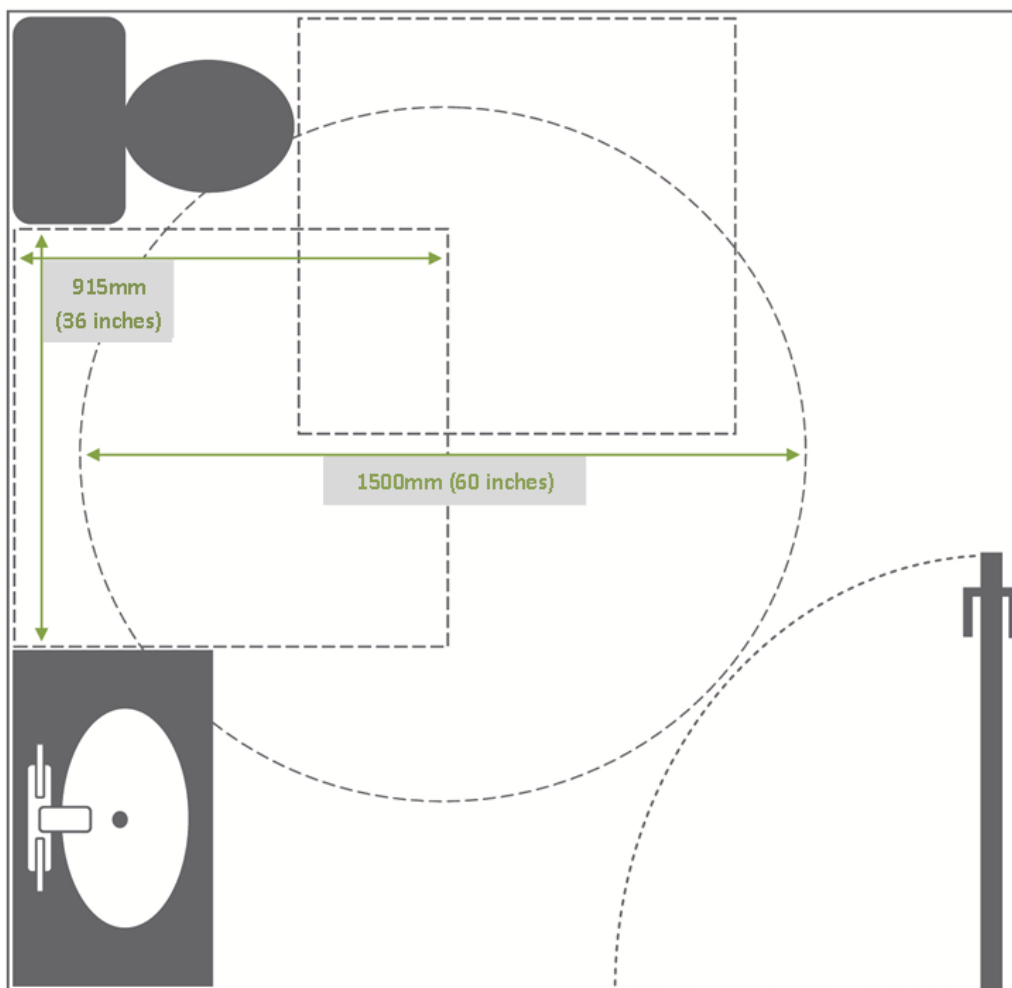
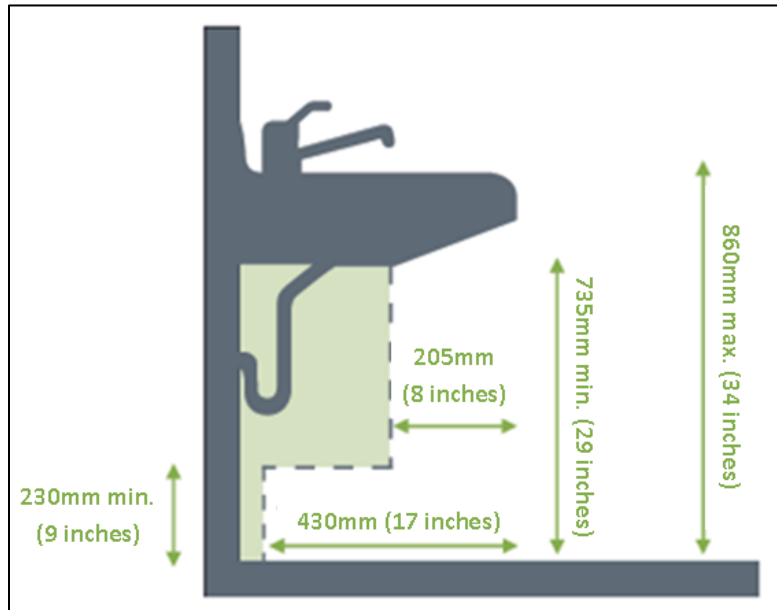

Figure 3.2 (Example of a simple washroom floorplan showing manoeuvre and transfer spaces.)
Figure 3.3 (Example of minimum leg and toe space requirements and maximum sink/counter height.)
3.2 There must also be a minimum 1500mm (60") diameter of open floor space within the washroom to allow wheelchair users to freely turn and position themselves to use the sink, washroom mirror, toilet, and support features where present. A 915mm (36") wide open space beside and in front of the toilet must also be provided for individuals with mobility difficulties to transfer safely. Both the minimum 1500mm (60") diameter and the 915mm (36") spaces can intersect to meet minimum space requirements if needed. (See example in Figure 3.2). These dimensions may also be able to overlay the underside areas of washroom fixtures like the toilet or sink area provided that there is sufficient leg and toe space available for an individual to manoeuvre from a seated position. (See example in Figure 3.3).
3.3 Vanity counters, where present, and sink height should not exceed 860mm (34") and the depth of the vanity counter or wall-hung sink should be between 550mm to 650mm (22" - 25 ½") to allow for an individual using wheeled mobility equipment to manoeuvre under the sink to be closer to the faucet. Furthermore there should be a minimum free space under the sink area of 735mm (29") in height by 760mm (30") in width. Also, from the front edge of the vanity counter or wall-hung sink, this space should be at minimum 205mm (8") in depth at the height of 735mm (29") to allow for leg space and 430mm (17") in depth at the height of 230mm (9") to allow for toe space. (See example in Figure 3.3)